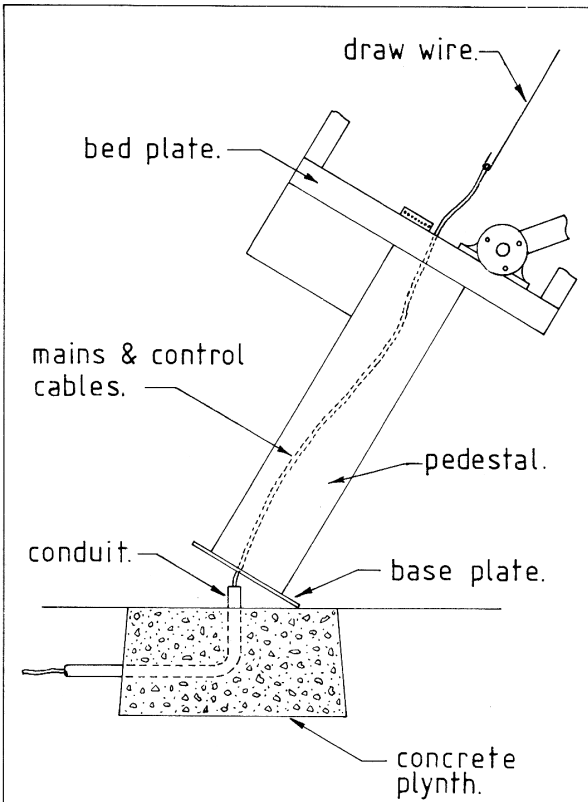

Fig. 1.
2. Taking note of handing requirement, position barrier onto prepared concrete plinth and at the same time use a draw-wire to pull mains and control cables from protruding conduit, into the barrier pedestal, through the central hole in the pedestal base plate and the drive mechanism bed plate cable hole. (Fig 1.)